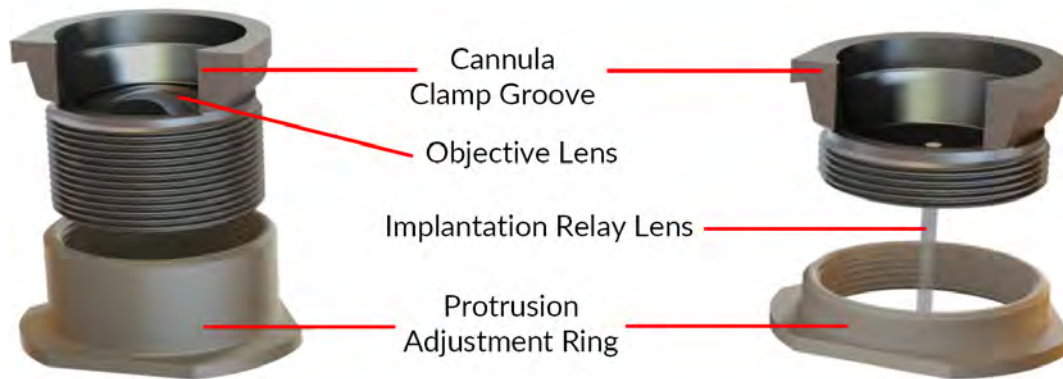

Figure 2.2: Snap-in imaging cannula type S (left) and type L (right)
- The **Implantation relay lens** is found on the *Model L imaging cannula* (Fig. 2.2 right). It is an image guiding gradient-index rod lens that brings the image from inside the brain to the skull surface.
- The **Objective lens** is found on the *Model S imaging cannula* (Fig. 2.2 left). For areas near the brain surface (less than 150 μm below the skull) it provides higher image quality and a larger FOV than the **Model L imaging cannula**.